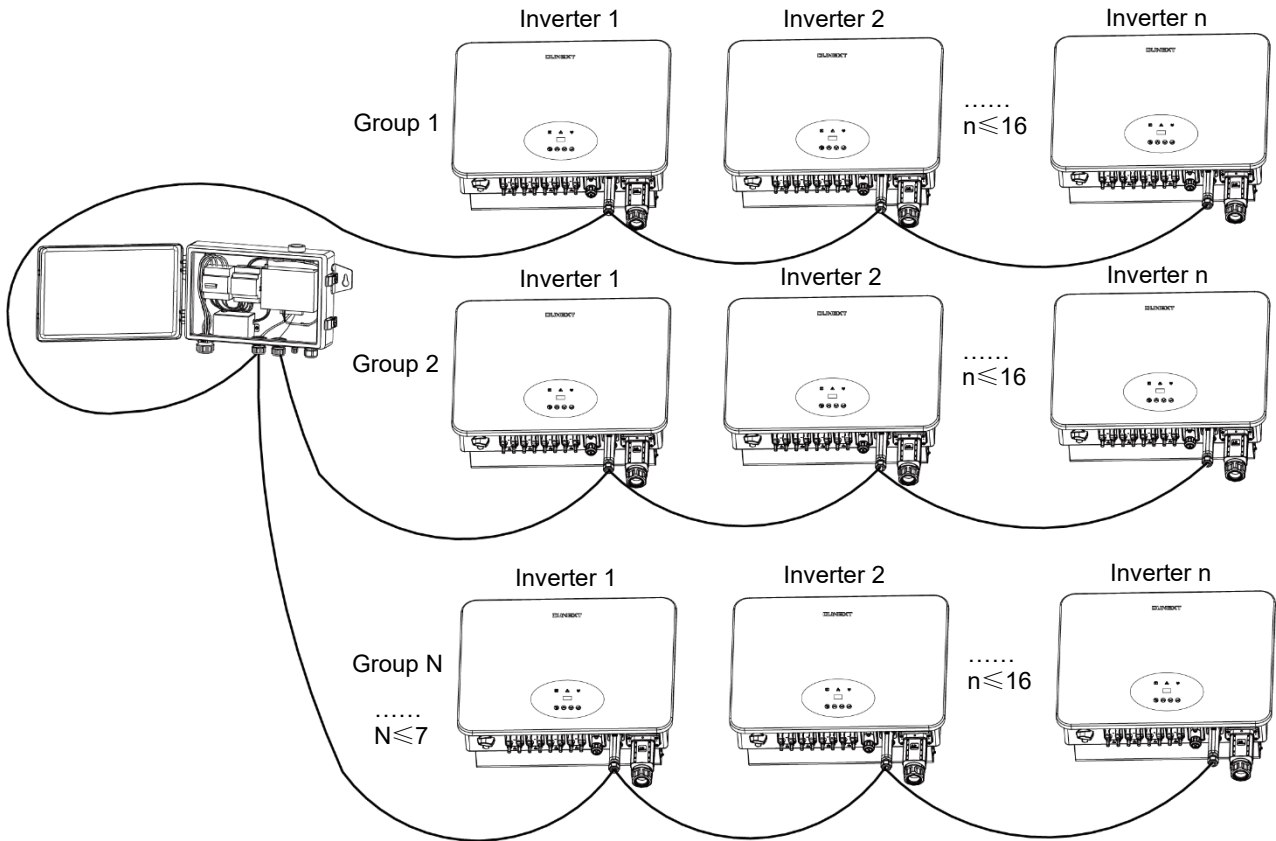

Figure 5-13
- 4) Connect the other end of the dual 485 adapter to the communication port of Inverter 2, and so on, as shown in Figure 5-13.